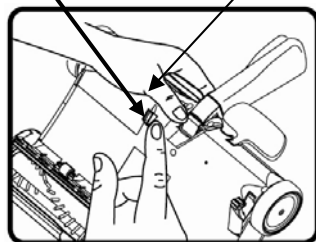

Fig. 5
3. Push in locking tab and lift off battery compartment cover. (Fig. 5 & 6)